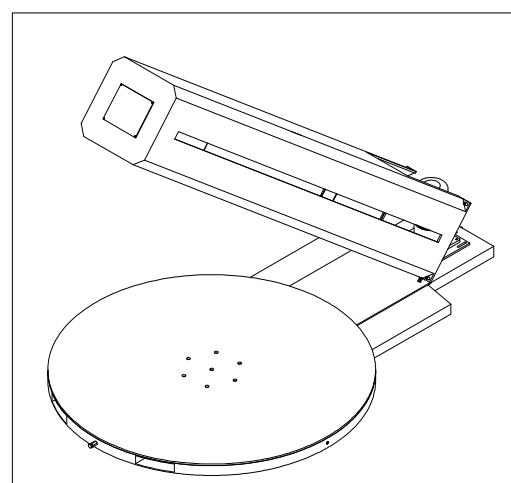

FIG 2-10
2. Slowly erect the upright stanchion with a crane by clasping the 2 M10 pull-tabs at the top of the upright stanchion with iron ropes, to keep it vertical to the base (FIG 2-10).